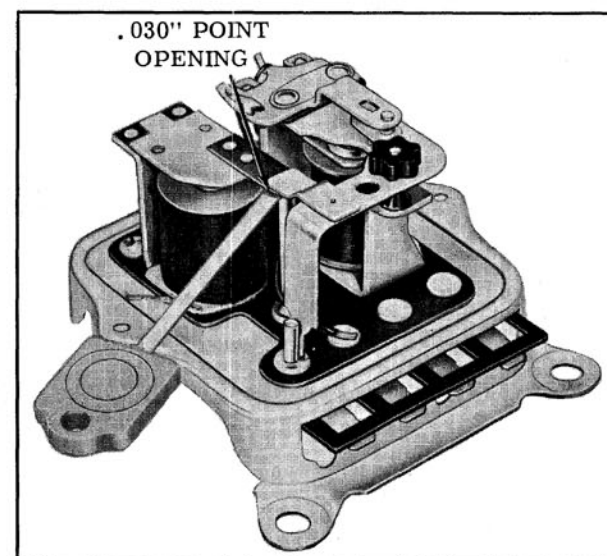

Fig. 13-23 Checking Field Relay Point Opening
5. To check point opening, insert a feeler gauge between the contact points. Clearance should be .030". (Fig. 13-23)